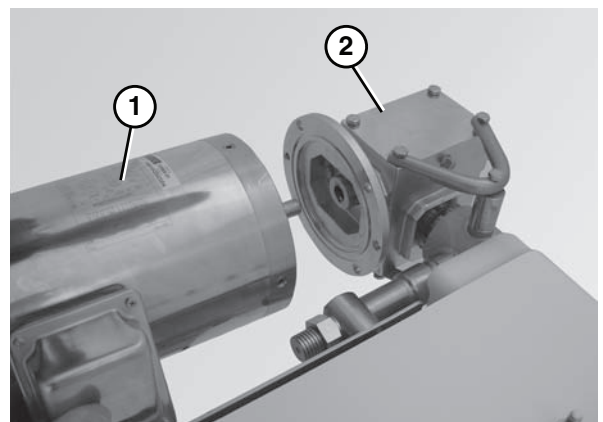

Figure 30
6. Detach the motor (Figure 30, item 1) from the gear reducer (Figure 30, item 2).